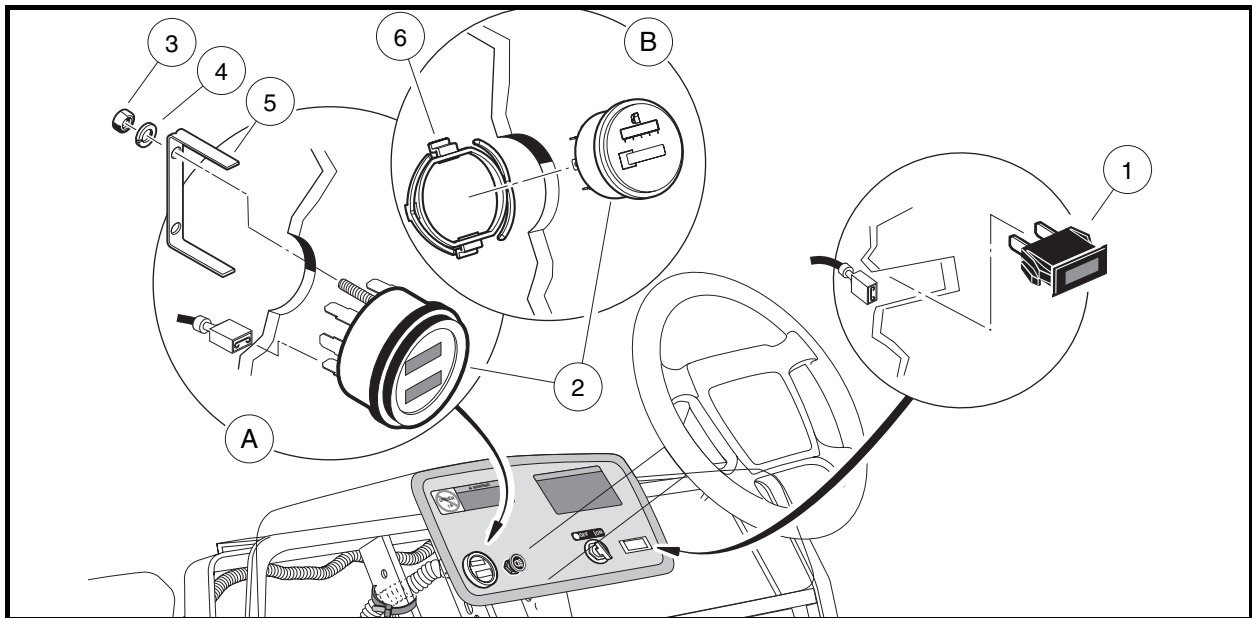

Figure 13-22 Fuel Gauge/Hour Meter and Oil Warning Light Assembly
4. Disconnect the wires from the oil warning light (1) (**Figure 13-22, Page 13-21**). Do not allow wires to touch.
1. Push a new unit into hole in dash until plastic tabs engage dash (**Figure 13-22, Page 13-21**).
4. Disconnect the wires from the fuel gauge/hour meter (2) (**Figure 13-22, Page 13-21**). Do not allow wires to touch.
1. Install a new gauge/meter into hole in dash until flange seats against dash (**Figure 13-22, Page 13-21**).